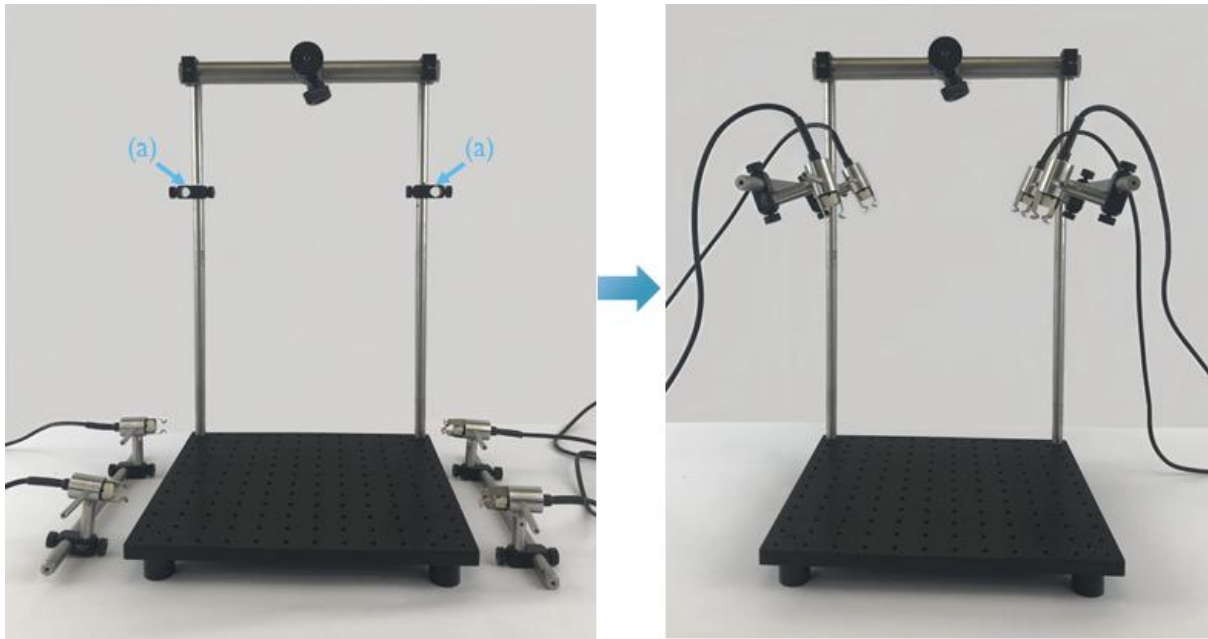

Figure 13. Mounting of lamp holders on to the setup
Step 4.2 Mount the posts on to the setup (Figure 13)